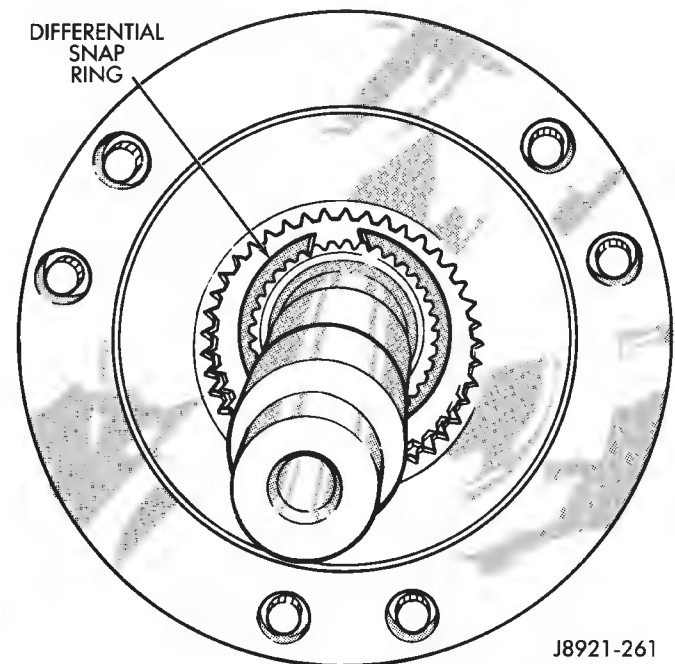

Fig. 58 Installing Differential Snap Ring
(35) Install differential snap ring (Fig. 58).